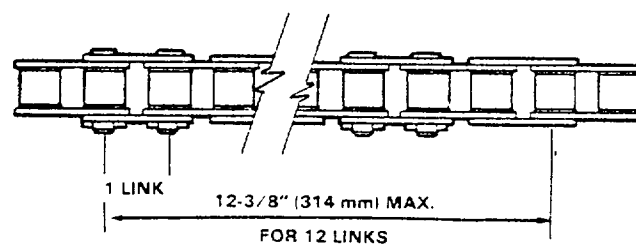

Figure 2-6. Chain Measurements
12. Inspect lift chains for stretching. Measure 12 links of chain (Fig. 2-6). Distance should be 12-3/8" maximum. If the distance is not within limits. replace both chains.